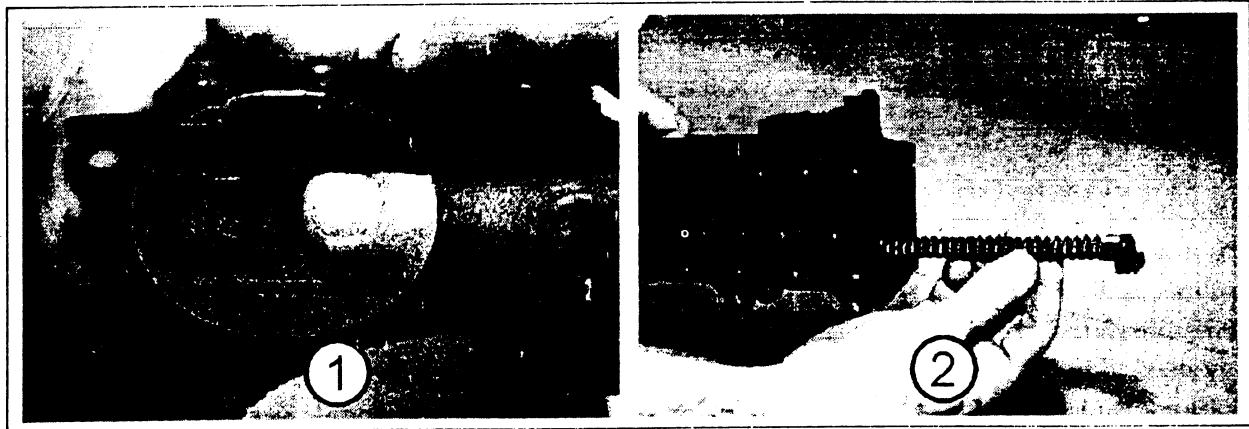

Fig 1-15. Removing drive spring rod.
(4) **FOURTH**, remove the drive spring rod (see fig 1-15).